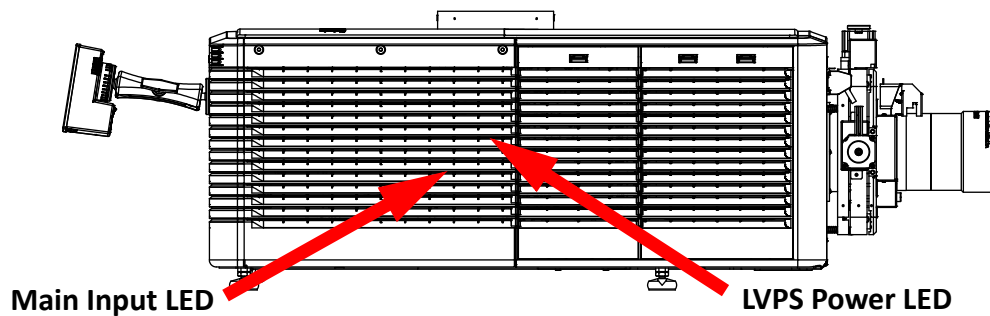

Figure 7-2 View Power Status LEDs
- Verify the LVPS has power by looking through the non-operator's side front access panel. One LED should be present in the lower middle region. (Figure 7-2).